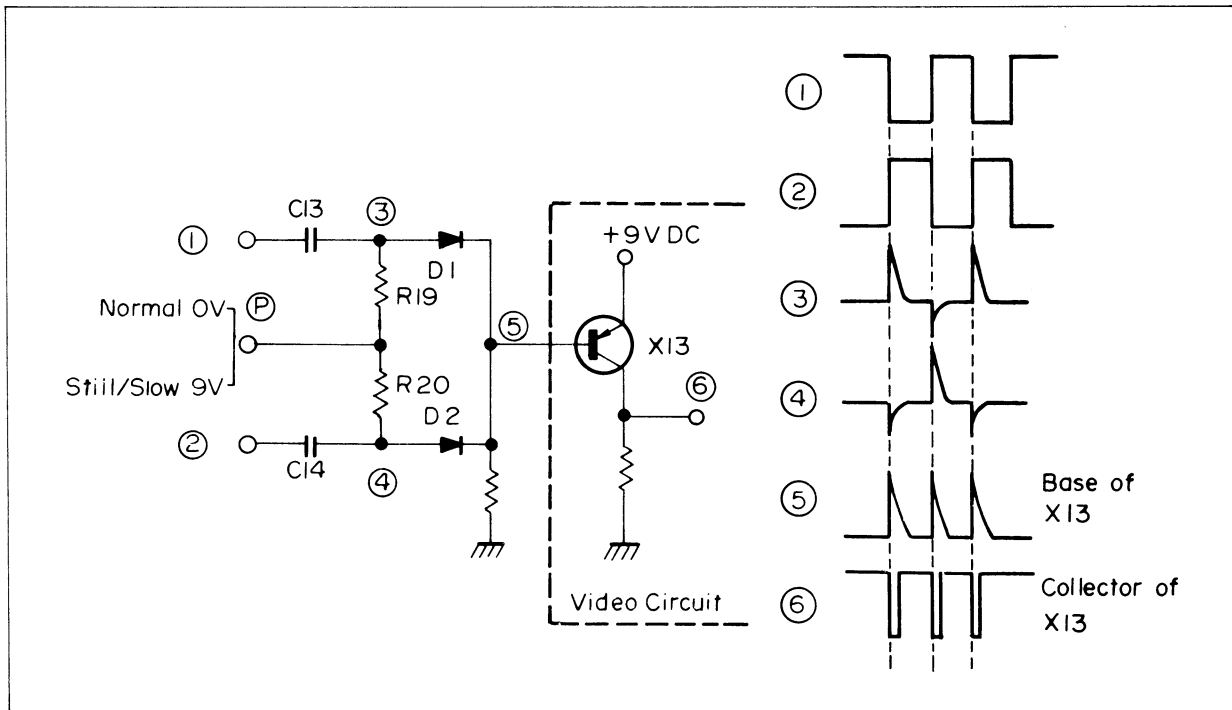

Fig. 2-24. V. stab. pulse amp. circuit
Since PV-4800U employs a rotary 2-head helical scanning system, a noise bar appears on the playback picture in the still and the slow mode. Since this noise may disturb the vertical sync signal resulting in the effect of instability of the playback picture, in order to prevent this phenomenon, a quasi vertical sync pulse is added to the playback video output for still and slow mode. As shown in Fig. 2-24, positive (+) 19 volts DC is applied to the junction of R19 and R20 in the still and the slow mode. The flip-flop outputs of IC4 and IC5 of the Audio and Servo Circuit are differentiated by a circuit consisting of C13, R19 and C14, R20, and the positive portion of the pulse is passed by D1 and D2, cutting off X13, on the Video printed circuit board. This positive pulse results in the quasi pulse as detailed in 2-2-2 (6). Since at the normal playback mode, the power supply is not connected to the junction of R19 and R20; D1 and D2 do not operate, and X13 remains conductive, then no quasi vertical sync pulse is produced. Refer to the 2-2-1 (6) of the monitor output circuit for additional explanation of the video circuit for the addition playback.